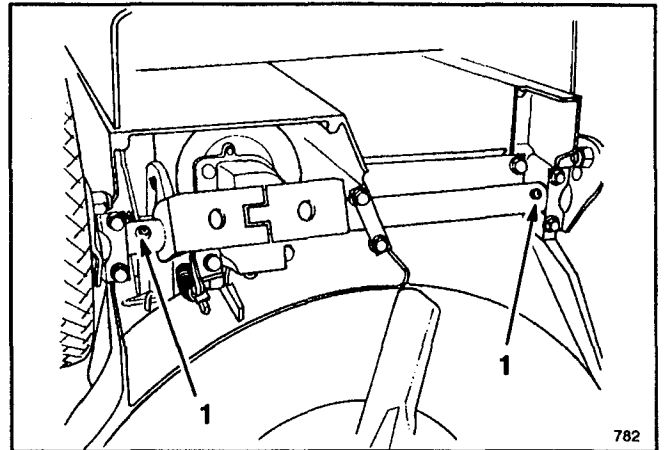

Figure 29
2. Tip the mower on its left side. Wipe grease fittings with clean rag (Fig. 29). Install grease gun onto fitting and gently apply one or two pumps of #2 Multi-Purpose Lithium Base Grease.